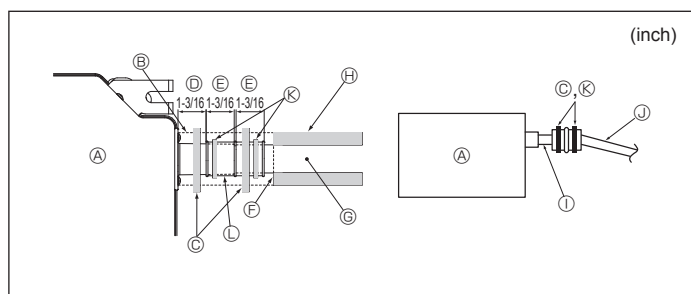

Fig. 3-5
- ② Up to 850 mm (33 inch)
1. Connect the drain socket (supplied with the unit) to the drain port. (Fig. 3-5) (Affix the tube using PVC adhesive then secure it with a band.)